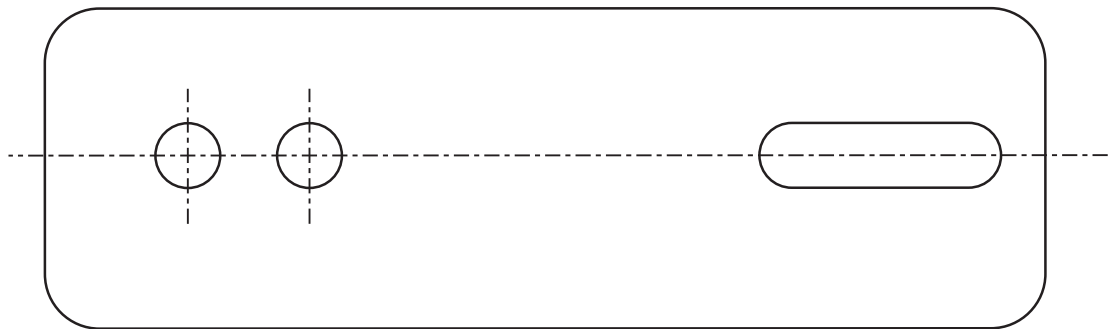

Fig. 1
- 2 Fig. 1 shows an aluminium bracket that a company is going to produce using a computer aided manufacturing process.